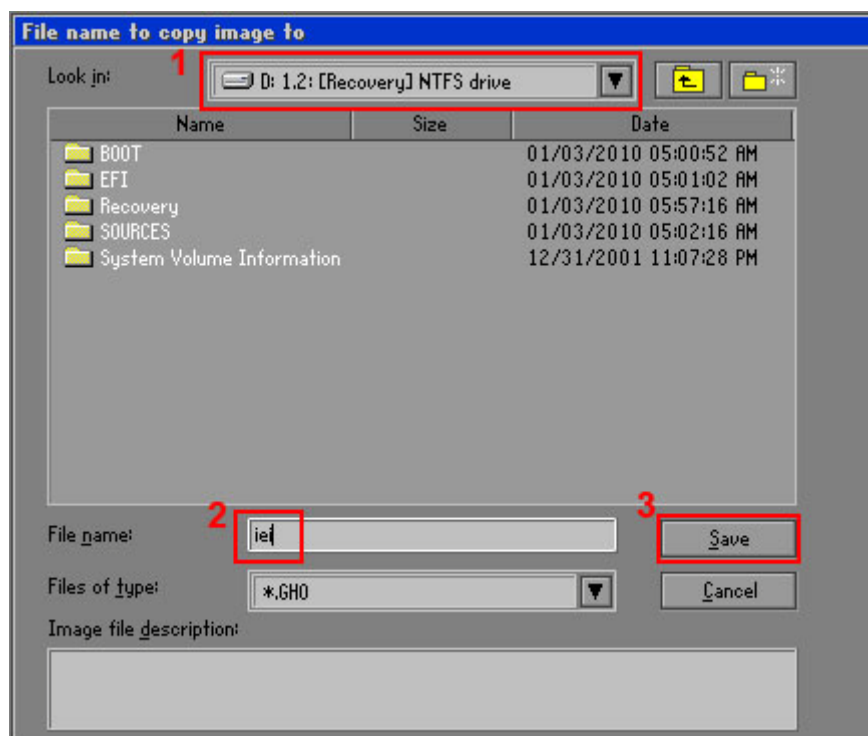

Figure C-16: File Name to Copy Image to
Step 7: Select **1.2: [Recovery] NTFS drive** and enter a file name called **iei** (**Figure C-16**). Click **Save**. The factory default image will then be saved in the selected recovery drive and named **IEI.GHO**.